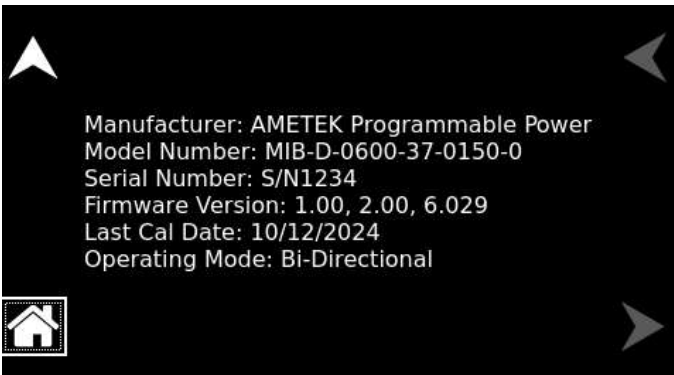

Figure 8-194. System Details
**System Details**      Displays the information about the power supply, including the Manufacturer, Model Number, Serial Number, Firmware Version, Last Calibration Date, and Operating Mode. Refer to Figure 8-194.